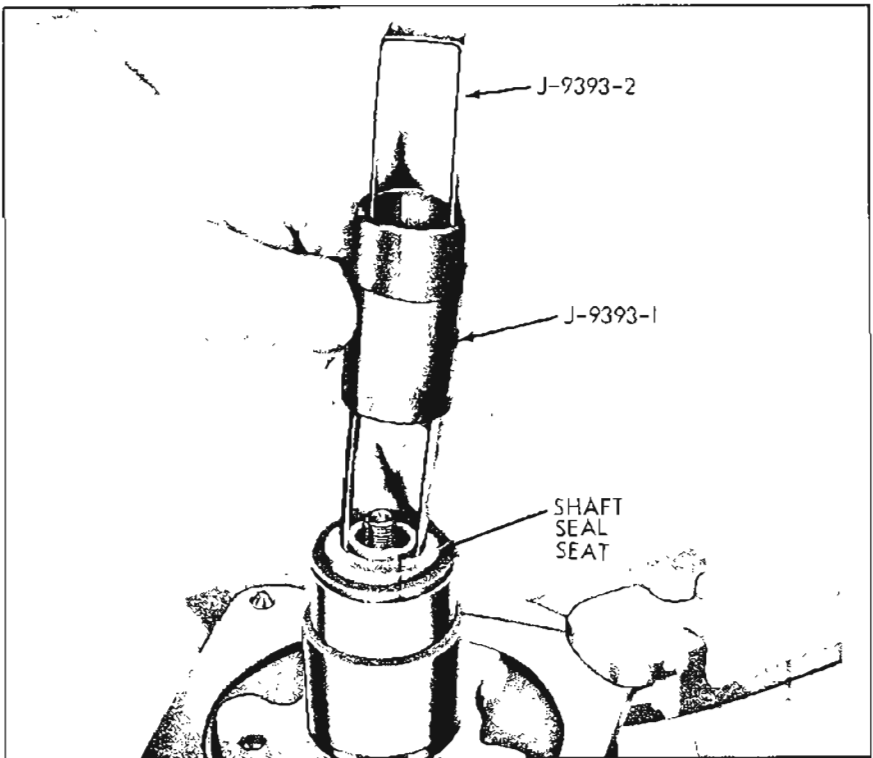

Figure 11-54—Removing or Installing Shaft Seal Seat
6. Disassemble shaft seal seal (see Figure 11-54) by use of Seal Seat Remover and Installer (J-9393). Grasp flange of shaft seal seat with tool and pull straight out.
11. Lubricate shaft seal seat with 525 viscosity oil, mount seat on Seal Seat Remover and Installer (J-9393) and reassemble into hub of front head (see Figure 11-54).